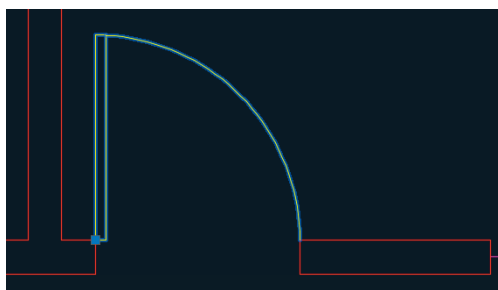

FIGURE 7.7 The door has only one grip because it is a block reference.
7. Select the door, and observe that it has only one grip because it is now a block reference (see Figure 7.7). Press Esc to deselect.